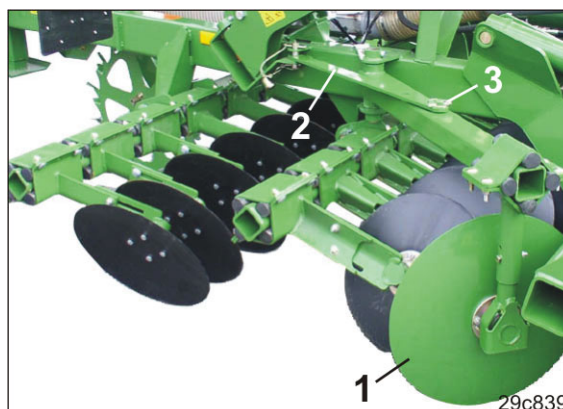

Fig. 160
8. Swivel the left-hand outside hollow disc (Fig. 160/1) to transport position.
The outside hollow disc is fastened in transport position and in operating position to the lug (Fig. 160/2), positioned with a bolt (Fig. 160/3) and secured with a linch pin.